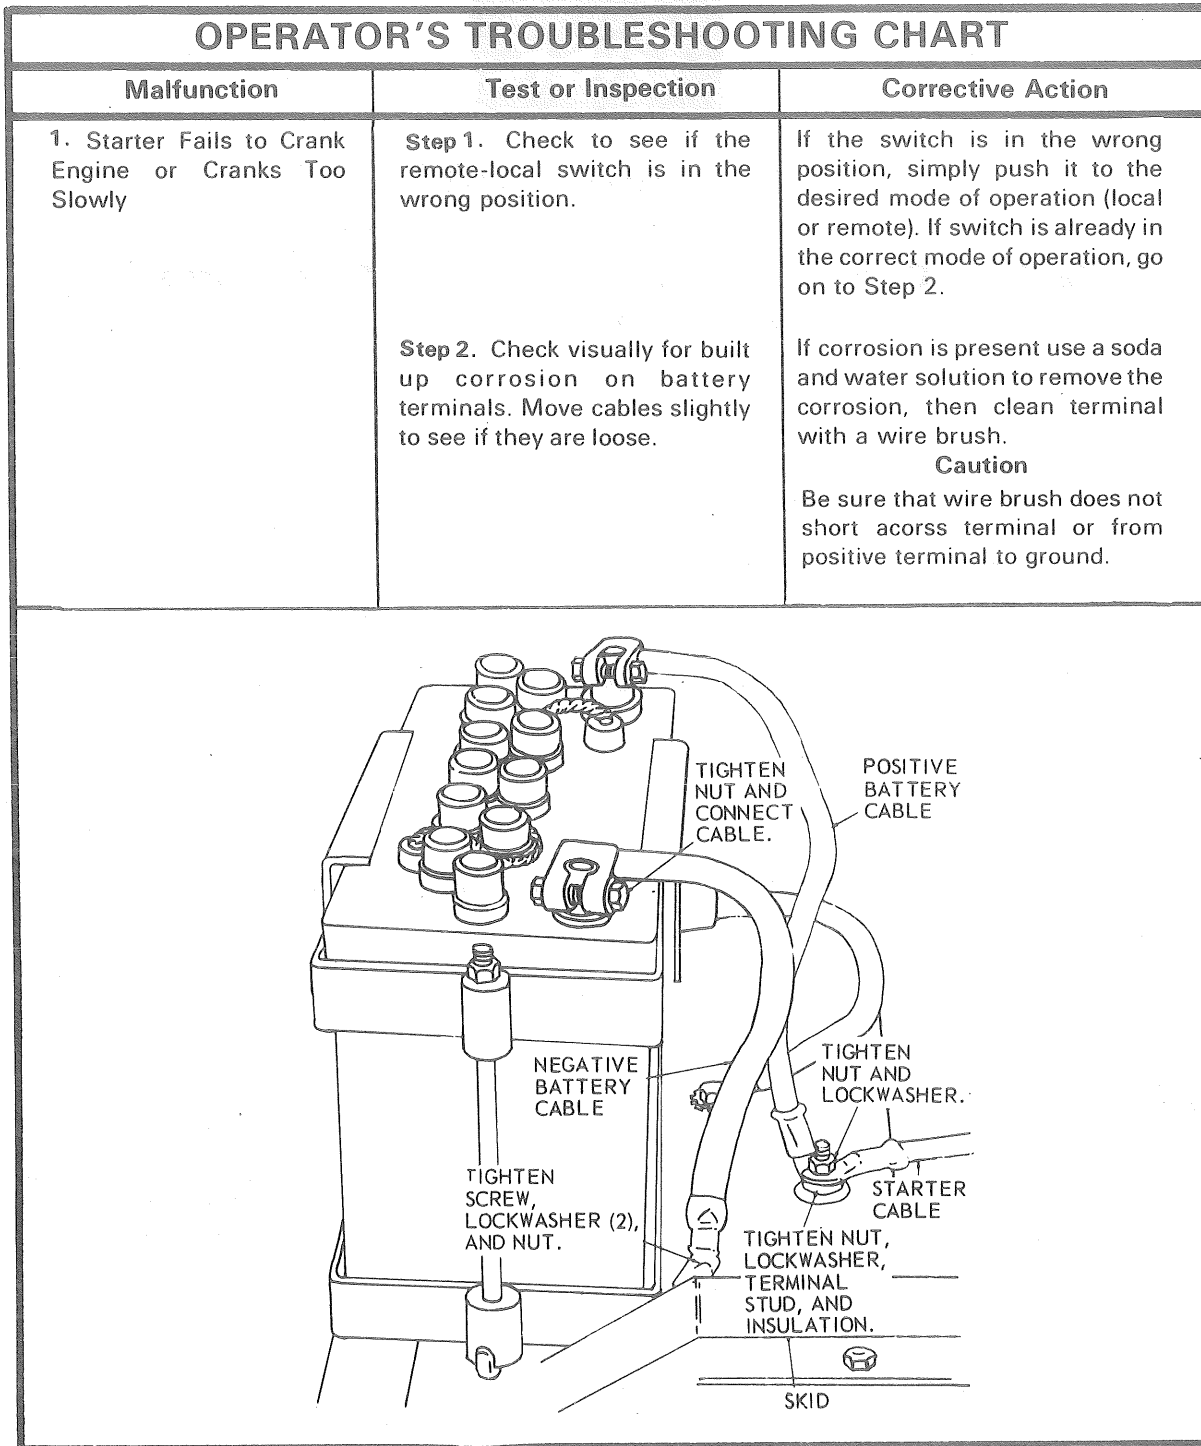

Figure 1. Operator's troubleshooting chart.
This task has been performed correctly when any discovered faults have been corrected in accordance with figure 1; and those faults that you, as an operator, cannot correct are recorded on DA Form 2404, without error, and reported to your immediate supervisor according to performance measures 1 through 4.
1. Perform operator's troubleshooting procedures on Generator Set, 5 KW. (Refer to fig 1, and TM 5-6115-332-14, para 3-8.)